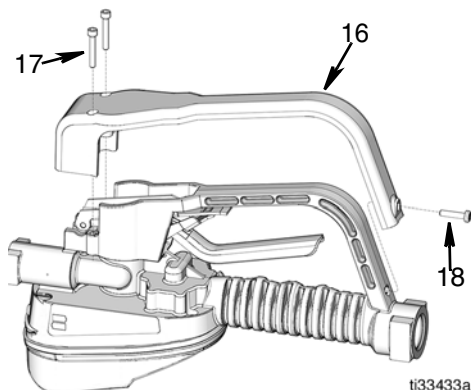

FIG. 38
4. Install trigger guard cover (16) using screws (17 and 18) (FIG. 38).